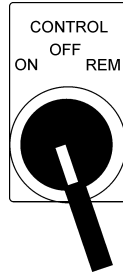

Figure 22. Pump Control Switch
- Turn the Pump Control switch (Figure 22) to the “ON” position, a **thumping** sound (cylinder stroke) should be heard. The thumping sound represents the number of strokes per minute (volume) of the pump.
- Turn the Control Off switch (Figure 22) to the “OFF” position.